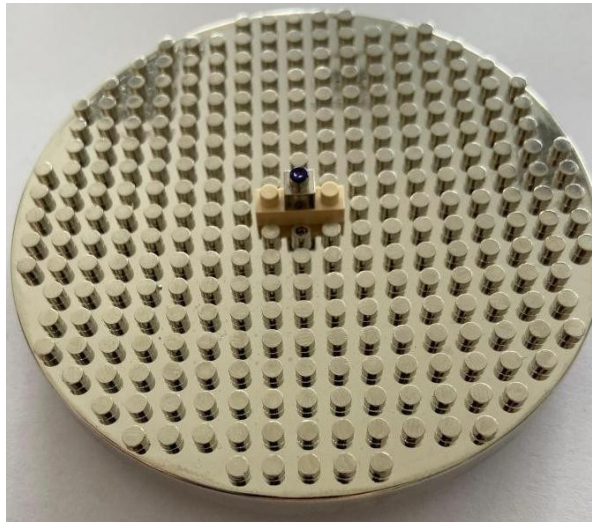

Figure 14 Ground plane with a dielectric feed cell and a metal feed cell
4. The ground plane is shown in Figure 14. Locate the “dielectric feed cell with a hole” over the inner conductor pin of the connector. Locate the “1X1 circular metal feed cell” over the hole.